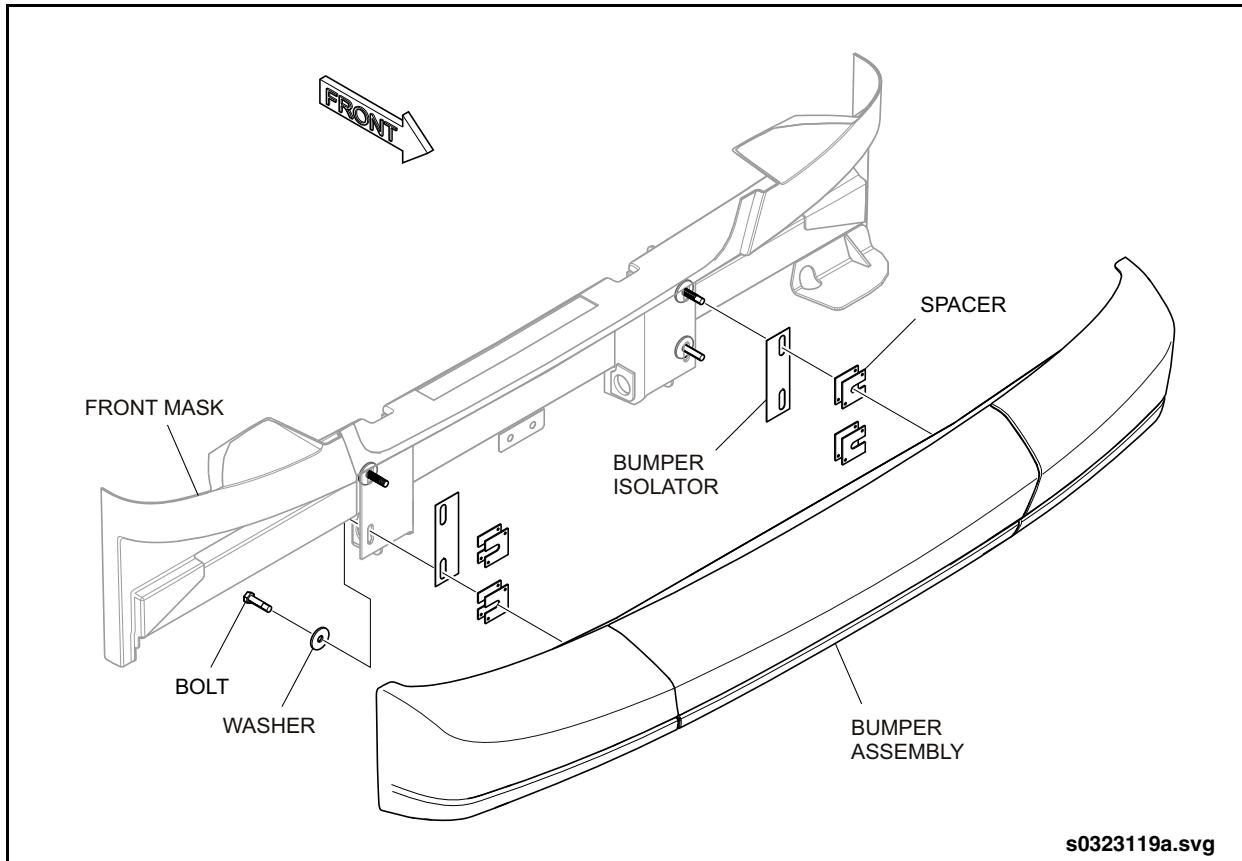

Fig. 13-9: Front Bumper Installation
3. Remove the bolts, washers and spacers that attach the bumper to the vehicle structure. Note the number of spacers that are used at each location. See "Fig. 13-9: Front Bumper Installation" on page 34.